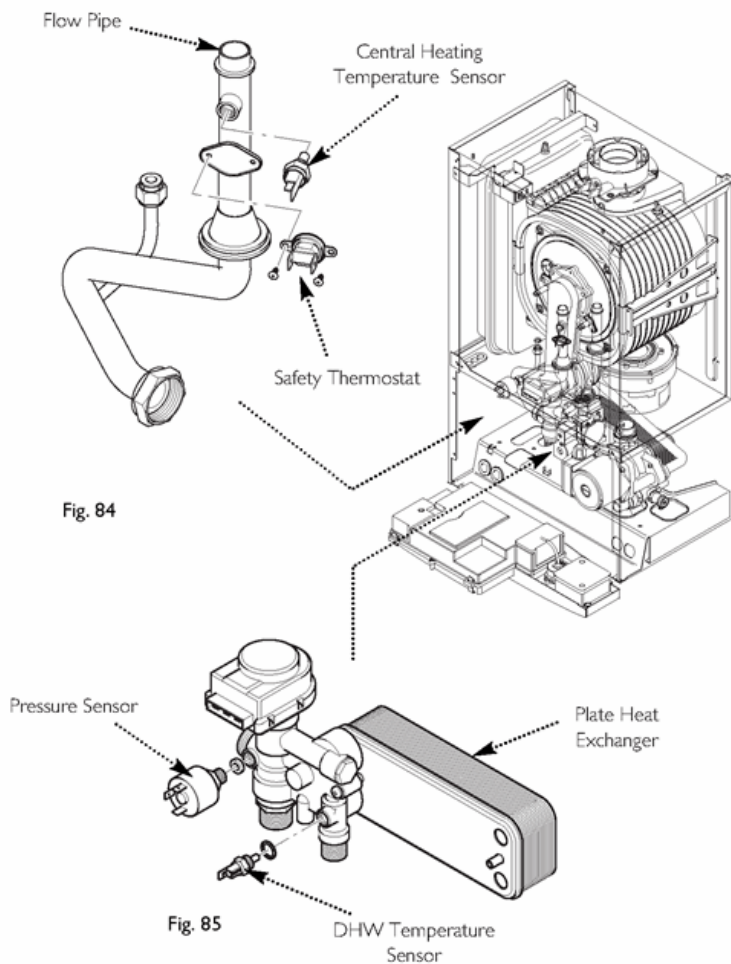

Fig. 84 & Fig. 85
Important: When fitting the new venturi, ensure the arrows on it's base point into the collector (Fig. 84).
14.10 Central Heating Temperature Sensor (NTC) (Fig. 84)